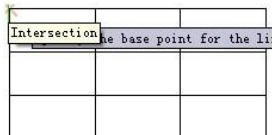

Fig 25
1. Start the command and specify the base point for the line of table. (Fig25)